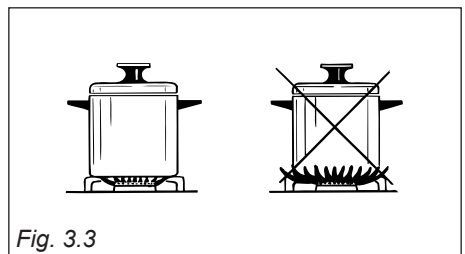

Fig. 3.3
- Connect the phase, neutral and earth wires to terminal board according to the diagram in fig. 3.3.